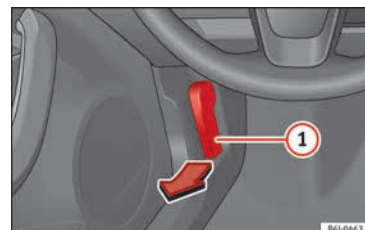

Fig. 6 See position on page 7-8
- Opening the bonnet: Pull the lever under the dashboard » **Fig. 6** ①.